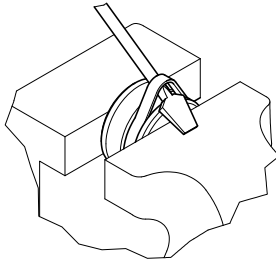

Figure 4-4, Piston Seal
7. Remove the piston retaining nut and remove the piston. (Figure 4-4)